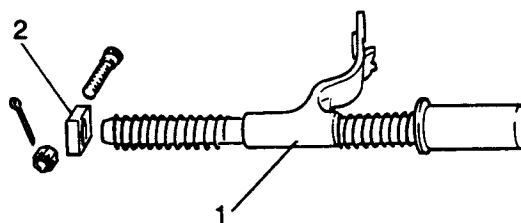

Fig H1.108
- (1) Refer to Fig H1.108. Fit the two springs and selector fork (1). Both springs are identical and interchangeable.
- (2) Fit the retaining block (2) on the selector shaft fixing it with the special bolt, castle nut and split pin.